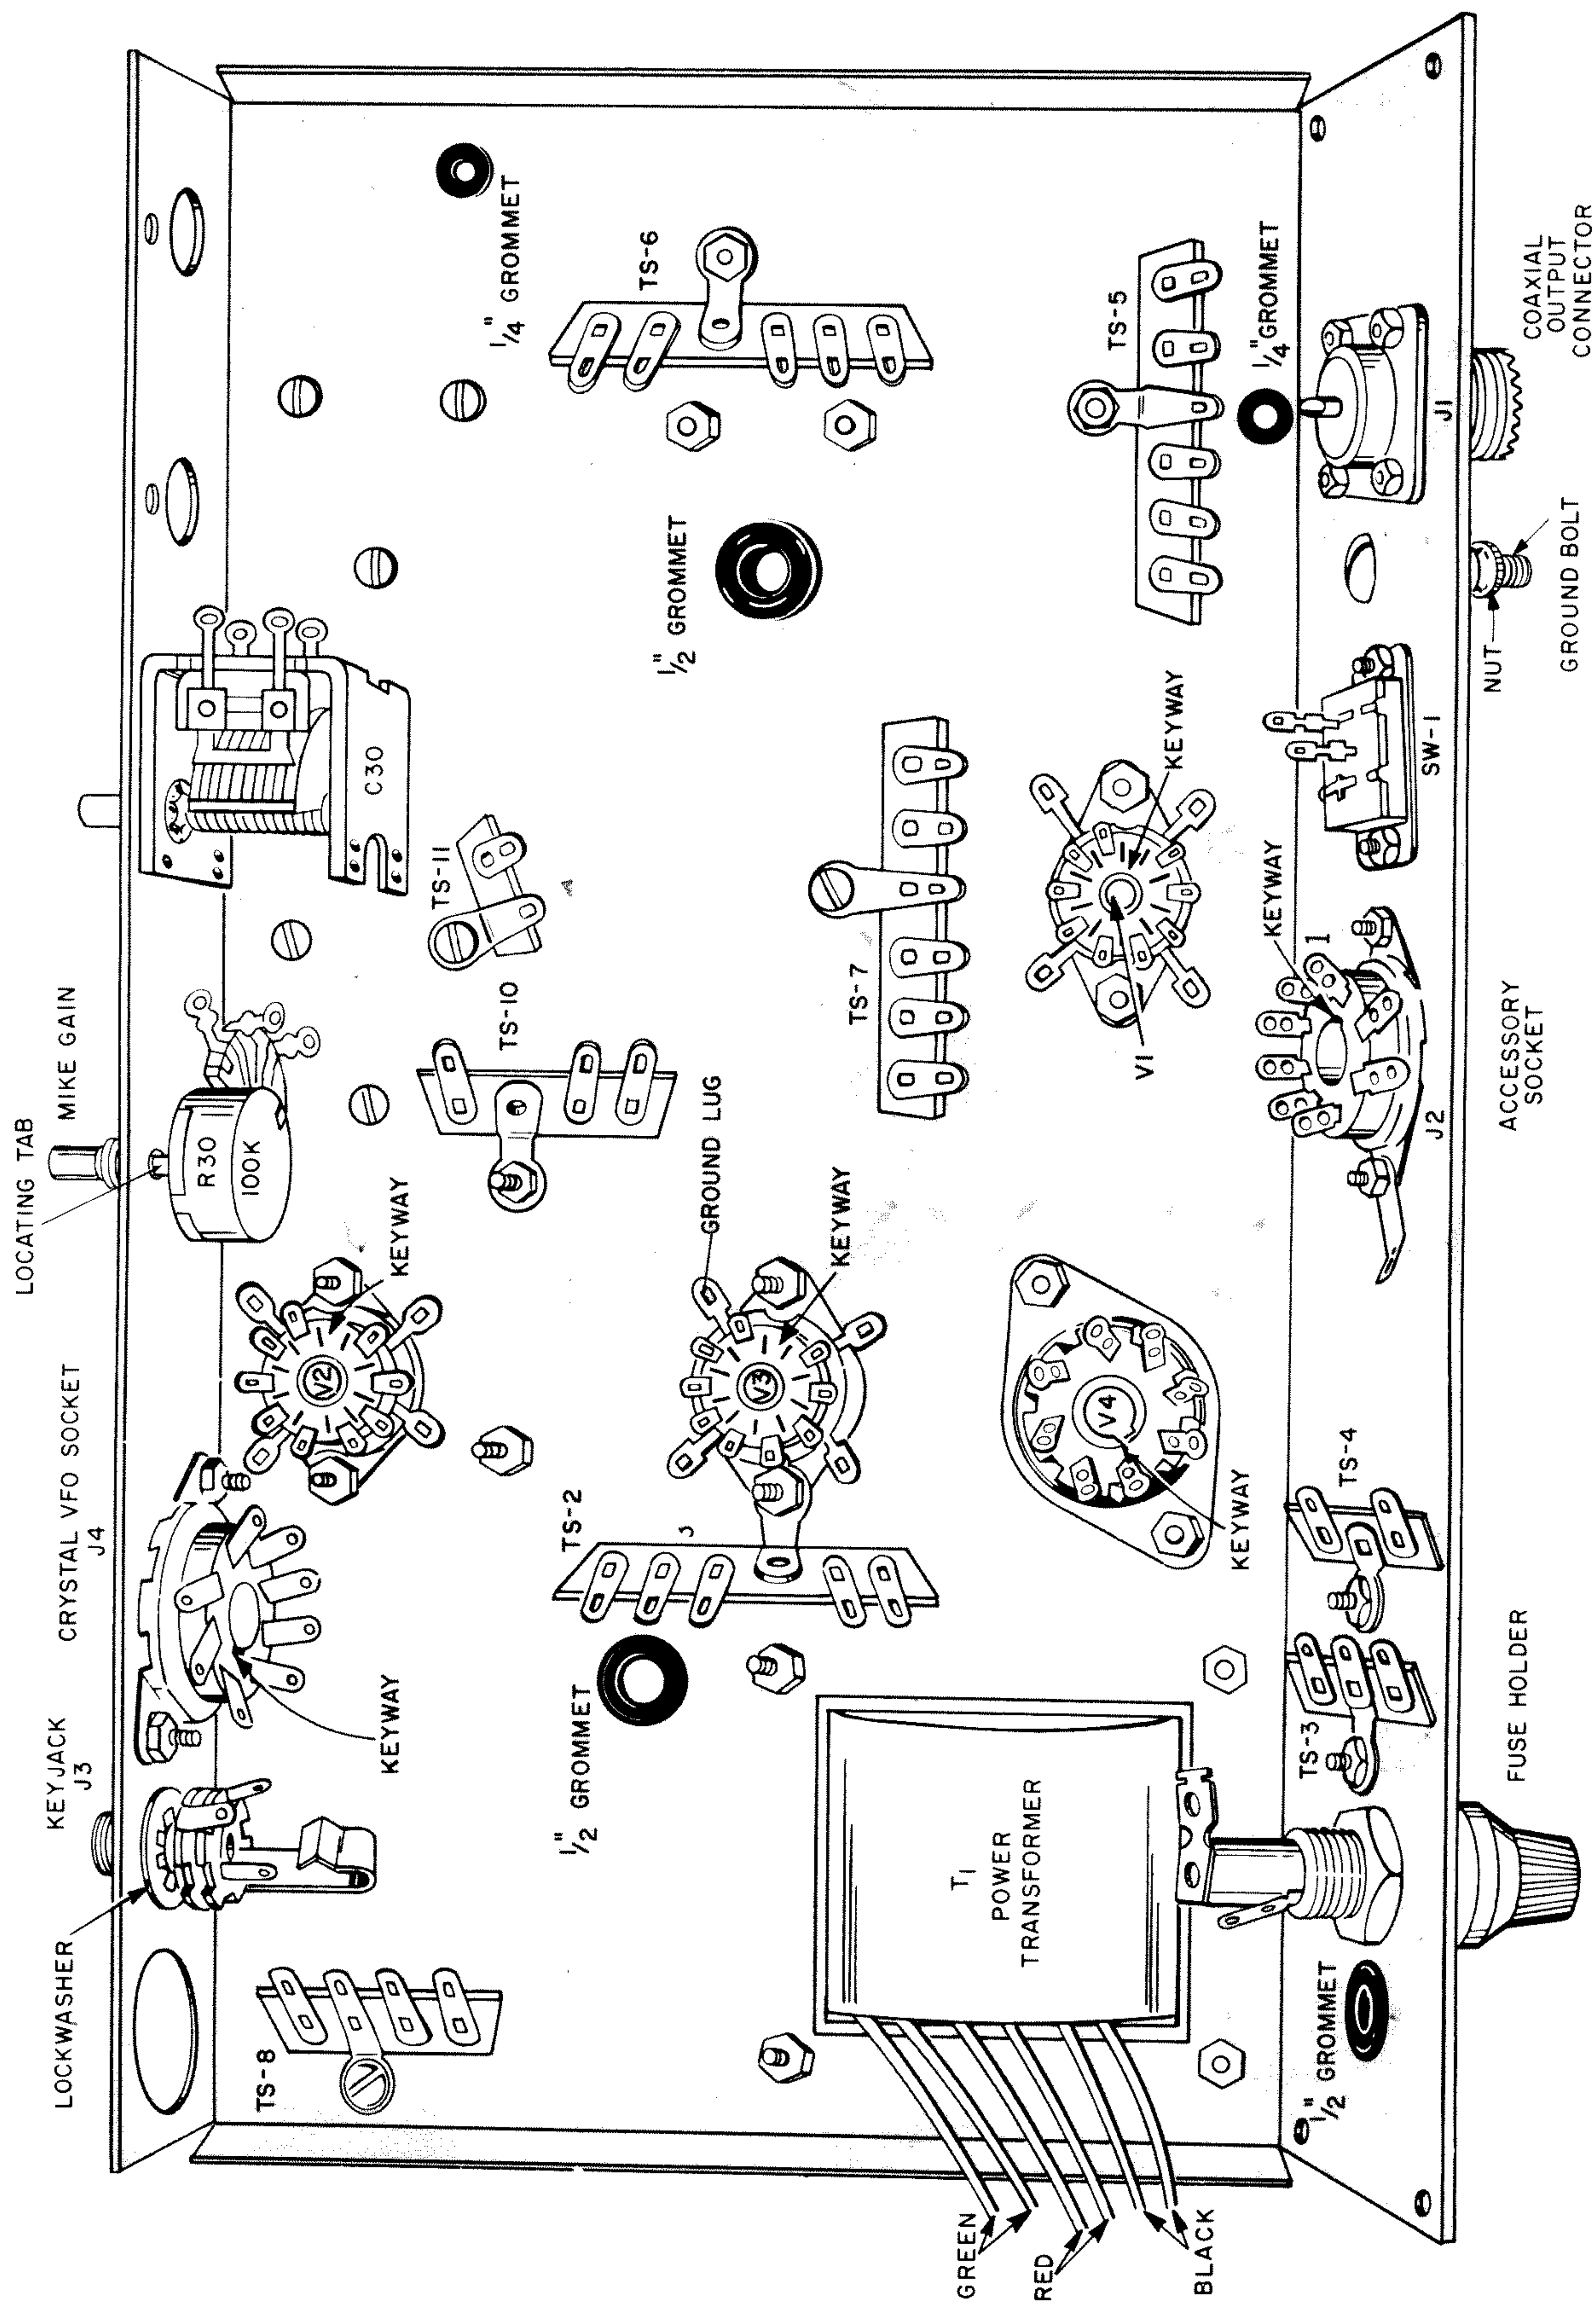
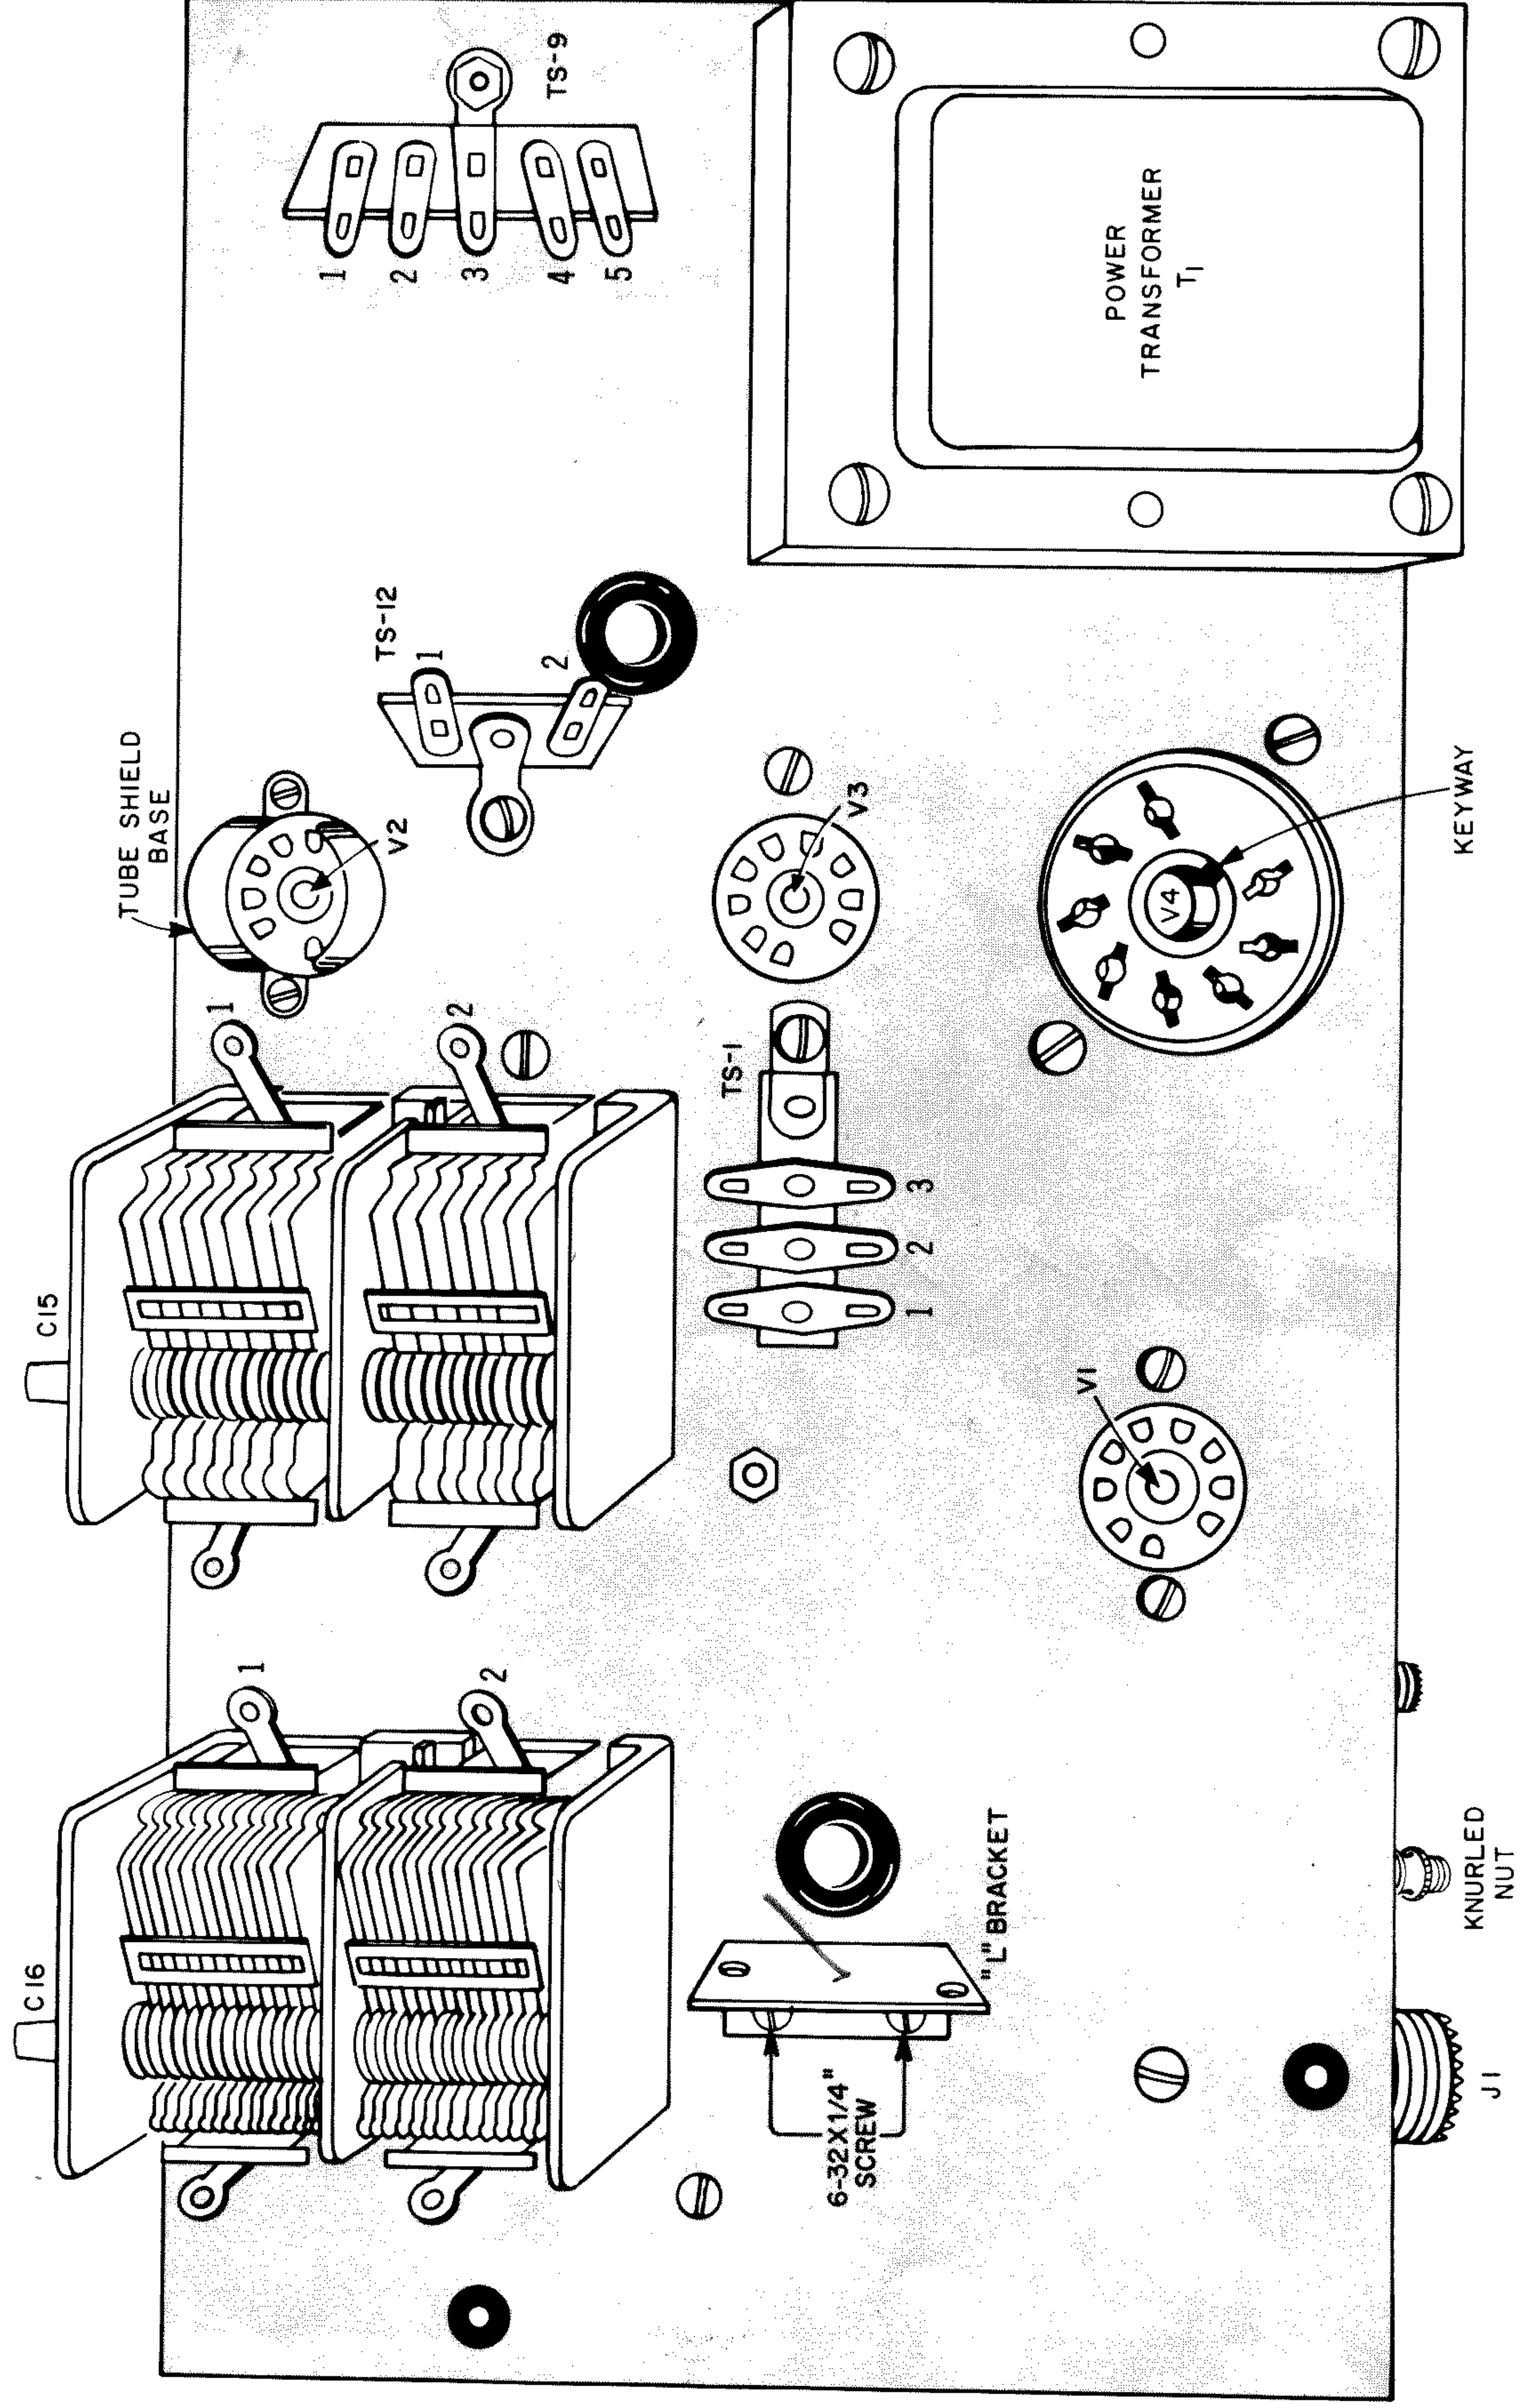

FIGURE 2
FIGURE 6
SEE FIGURES 2 AND 6
NOTE: It is sometimes helpful to write the part symbol on the chassis with a soft pencil or crayon. Make sure the tube sockets and terminal strips are positioned exactly as shown in Figure 2.
- ☒ J2, 8-pin accessory socket, and solder lug. Position the socket with the keyway as shown in Figure 2. Place the solder lug between the socket and lockwasher at the point shown and fasten with two 6-32 $\times$ $\frac{1}{4}$ " screws, lockwashers, and nuts.
- ☒ SW-1 slide switch. Mount so terminals are positioned as shown in Figure 2. Fasten with two 6-32 $\times$ $\frac{1}{4}$ " screws, lockwashers, and nuts.
- ☒ C-15, 2-gang, wide-spaced variable capacitor; and TS-11, 2-terminal strip. Position the capacitor on top of the chassis. See Figure 6. Insert a 6-32 $\times$ $\frac{1}{4}$ " screw through TS-11 and fasten to the capacitor as shown in Figure 2. Thread a 6-32 $\times$ $\frac{1}{4}$ " screw into the two remaining holes in the capacitor. Place a lockwasher under each screw.
- ☒ C-16, 2-gang variable capacitor. Position as shown in Figure 6. Fasten with three 6-32 $\times$ $\frac{1}{4}$ " screws, and lockwashers.